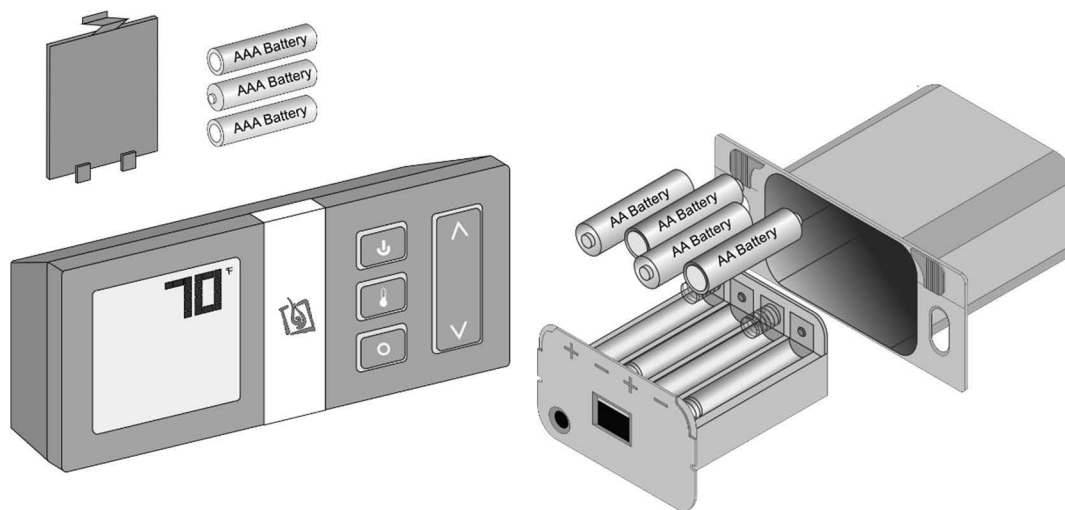

Figure 13
Install (4) AA batteries into the battery holder (see **Figure 13** below). These batteries act as a power backup in case the household (AC) current goes out.